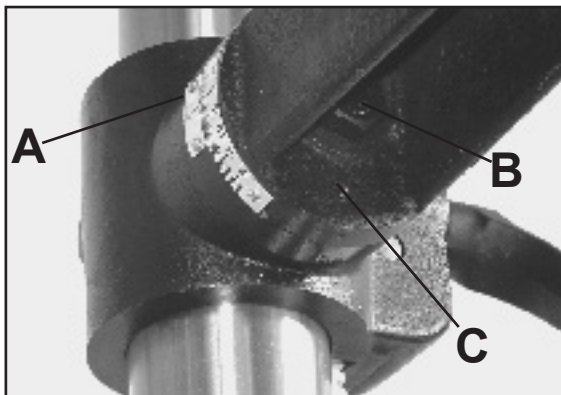

Figure 18
1. Loosen the nut below the table support arm. (Fig. 18). This requires a 24mm socket, adjustable, or special wrench (see page 17).
3. A tilt scale and pointer are provided on the bracket to indicate the angle. (Fig. 18).